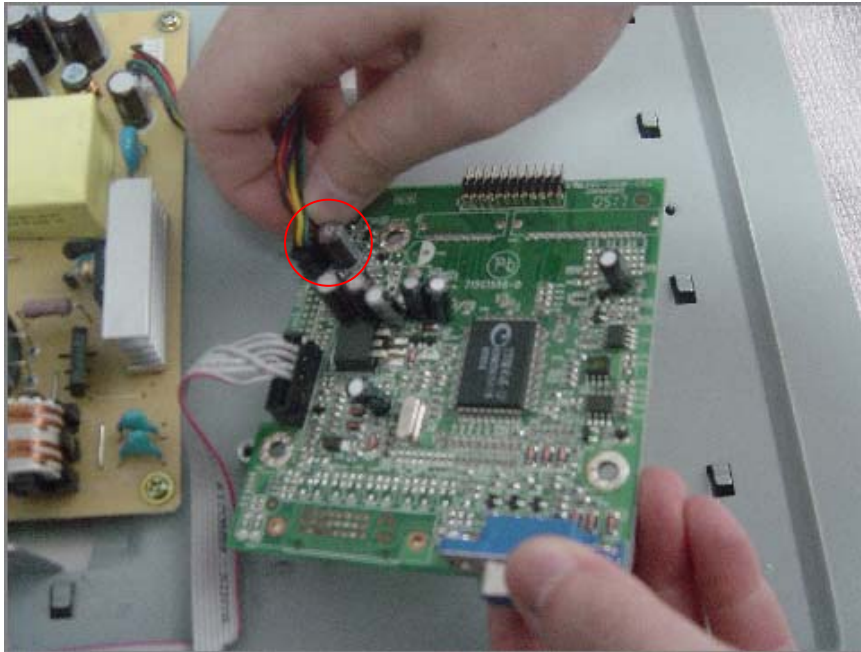

Fig 8
3. Remove connector wire with main board and power board. (Fig 8)